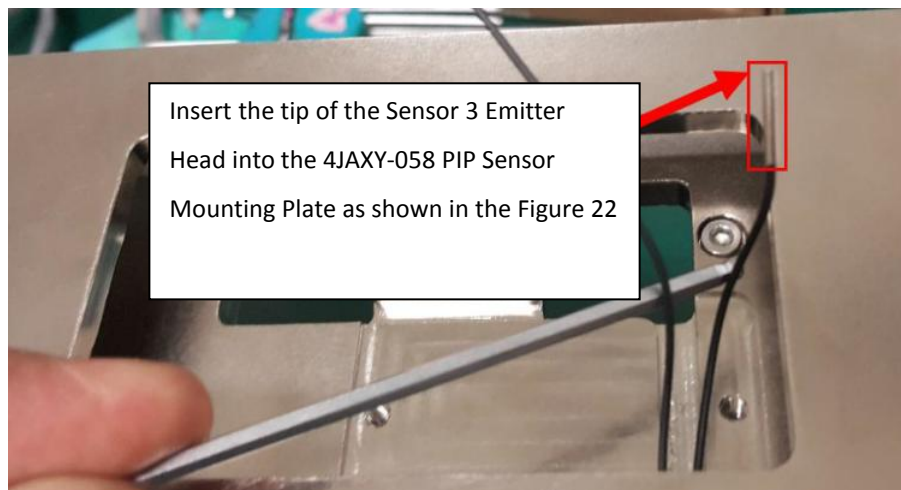
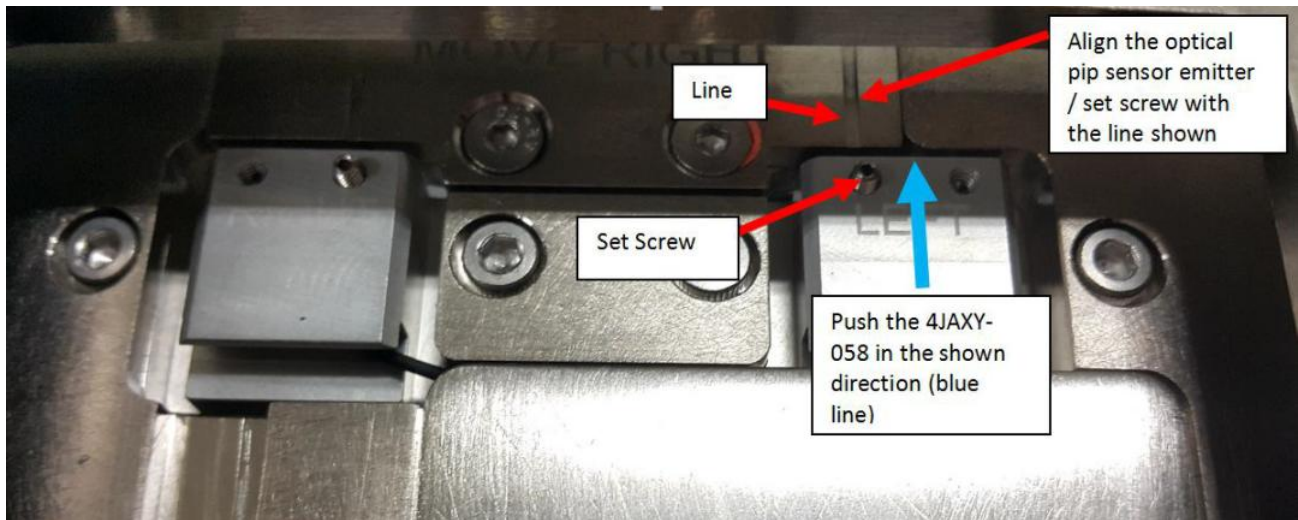

Figure 22 Sensor Emitter Head
Figure 25 4JAXY-058
2. For emitter installation, insert the emitter sensor head into 4JAXY-058 (PIP Sensor Mounting Plate 2) as shown from Figure 22 to Figure 25
3. Push the 4JAXY-058 PIP Sensor Mounting Plate 2 to maximum direction (Blue arrow) and align with the line as shown in the Figure 25.